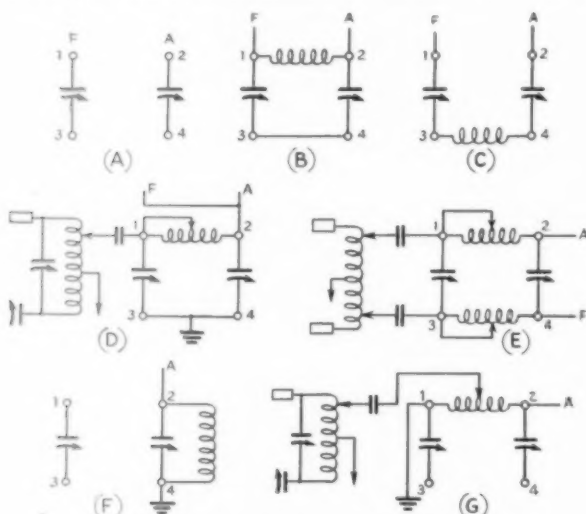

FIG. 1—UNIVERSAL ANTENNA-COUPLING ARRANGEMENT
with banana plug sockets in their ends are mounted in the form of a square about 5 inches on a side (the spacing of these insulators is determined by the length of the coils), and connected as in Fig. 1 (A) with two variable condensers between Nos. 1 and 3 and Nos. 2 and 4 insulators. For the sake of convenience the feeders are marked A and F, A being the one attached to the antenna and F the dead-end feeder. By plugging a coil in sockets 1 and 2 and a shorting bar in sockets 3 and 4 the feeders are parallel tuned, as in (B).
After a little thought the system shown in Fig. 1, which I have christened a "universal antenna coupler," was devised. Four standoff insulators